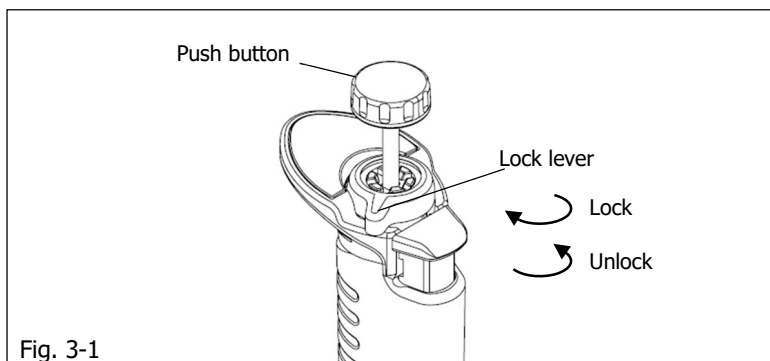

Fig. 3-1
- 1) Turn the lock lever to the unlocking direction to loosen it (Fig. 3-1).
- 3) After setting the liquid volume, turn the lock lever to the locking position to lock it (Fig. 3-1).